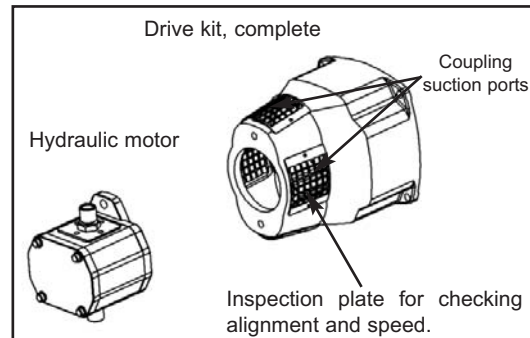

Figure 6
1. If the compressor is to be driven hydraulically, MOUVEX can supply a standard Drive Kit for direct mounting of the hydraulic motor or hydraulic pump. MOUVEX can also supply the hydraulic motor ; See figure 6.
3. If the couplings are aligned correctly, the outer plastic sleeve should have 0.19 inch (5 mm) axial play through 360° rotation. This can be checked by removing the inspection plate ; See figure 6.